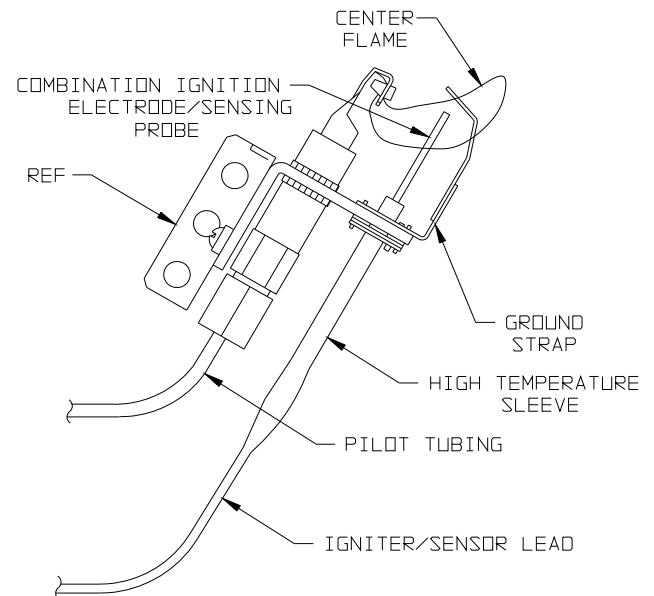

Figure 10.7: Pilot Burner Flame (LP Only)
LP Gas Only. The pilot burner produces three (3) flames. The center flame should be steady, medium hard blue enveloping 3/8 to 1/2 inch of sensing probe. See Figure 10.7.